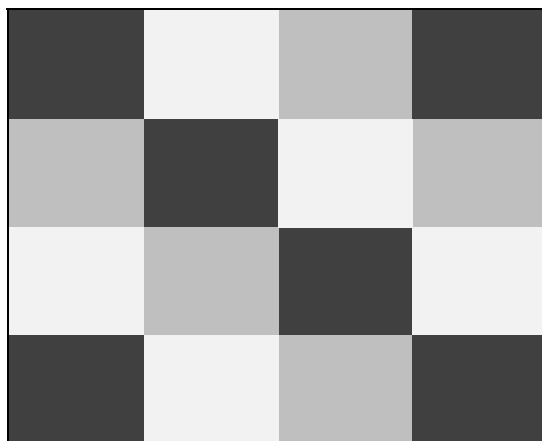

Figure 5-2. Display Test Pattern
2. Press **F3 CALIBRATE** . The display will show a dark test pattern, see Figure 5-2